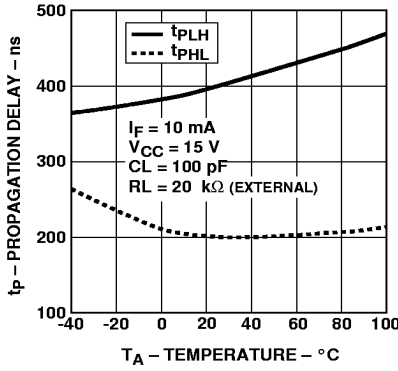

Figure 8. Propagation Delay with External 20 kΩ RL vs. Temperature.
- Due to tolerance of the internal resistor, and since propagation delay is dependent on the load resistor value, performance can be improved by using an external 20 k Ω 1% load resistor. For more information on how propagation delay varies with load resistance, see Figure 8.